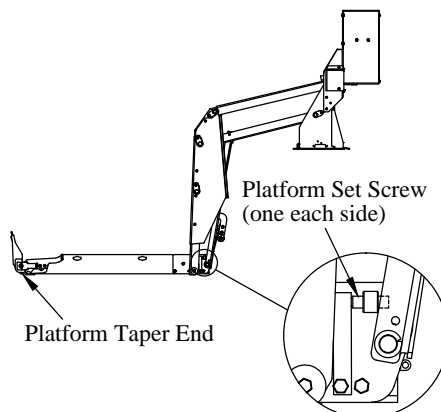

Figure 29: Platform.
3. **Adjust** the platform set screws until the platform taper end just rests on the ground (Figure 29).